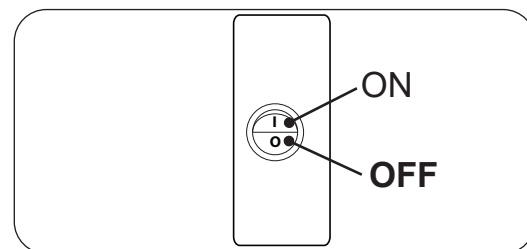

Fig. 31-1 Switch box, ON/OFF
1. Locate the ON/OFF switch at the front of the switch box. Press the switch to the **OFF (O)** position. See Fig. 31-1.